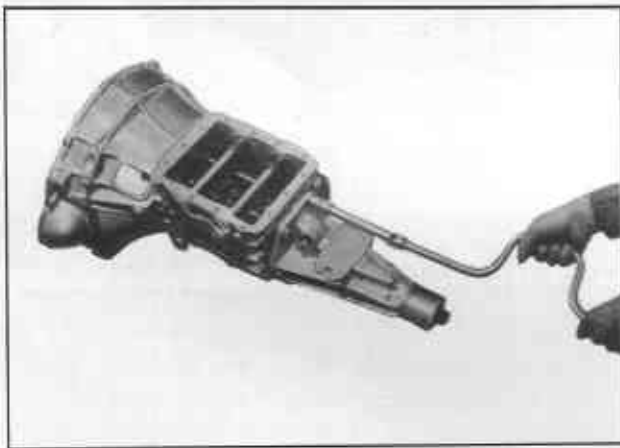

Fig. TM-12 Removing the rear extension housing
5. Remove the six bolts securing the rear extension housing and remove the housing (See Fig. TM-12).